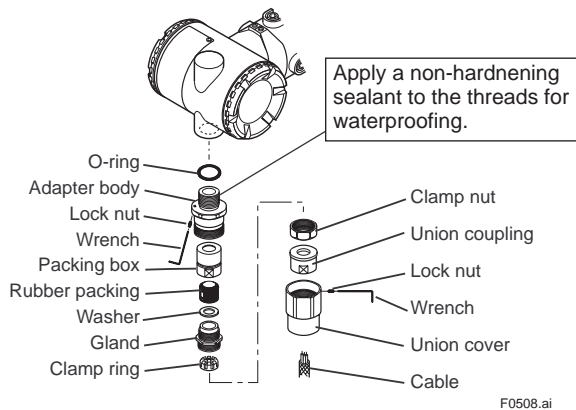

Figure 5.7 Installing Flameproof Packing Adapter
- Mounting flameproof packing adapter body to conduit connection (see Figure 5.7)